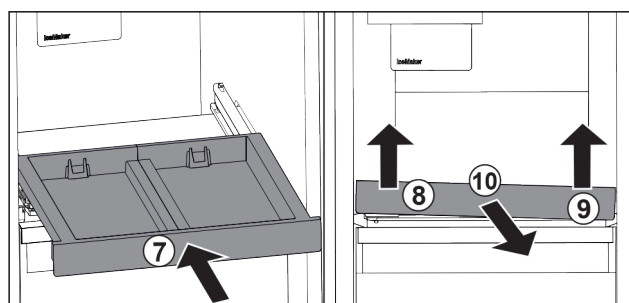

Fig. 33
- ▶ Slide in the pull-out board. Fig. 33 (7)
- ▶ Lift the pull-out board at the front left. Fig. 33 (8)
- ▶ Lift the pull-out board at the front right. Fig. 33 (9)
- ▶ Take out the pull-out board to the front. Fig. 33 (10)